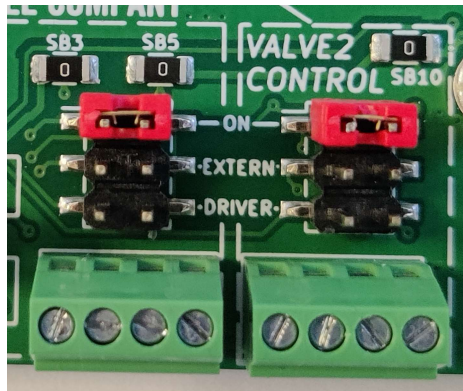

Figure 32 Manually turning the valves on
- Setting the jumper to ON manually turns on the valve as shown in Figure 32.